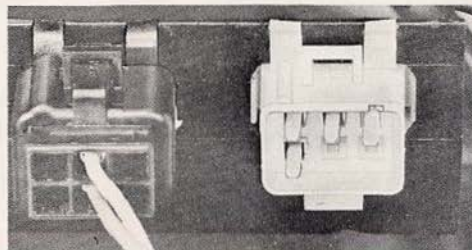

FIGURE 12
4. Disconnect wiring (Figure 12).